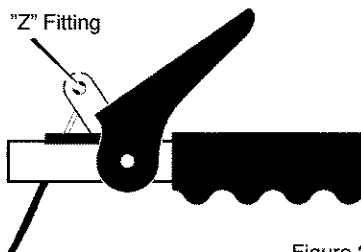

Figure 23
**To check for correct adjustment, unhook "Z" fitting at clutch lever (see Figure 23).**
5. Disconnect the "Z" fitting from the **drive lever** (see Figure 23).
11. Install the "Z" hook to the **traction drive lever** (see Figure 23).